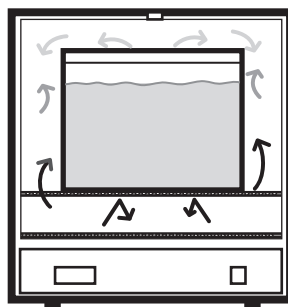

FIG. 6
- Avoid extremely large (in quantity or size), or high-density loads (FIG. 6). This will show by non-uniform processing and long or impossible "heat-through" times. To help determine a large load's suitability, use the set-point recovery time (the time it takes for the temperature to recover to the original set temperature once load is placed), as a guide.